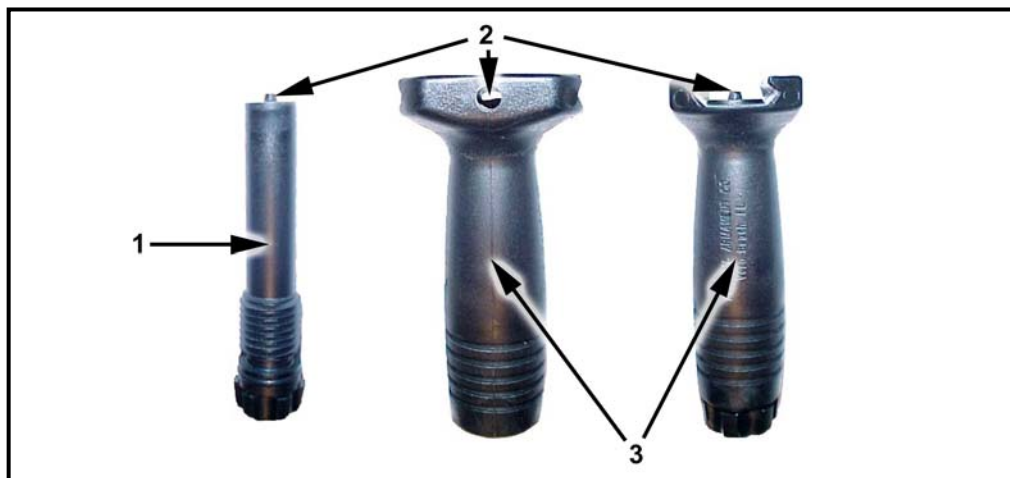

Figure 2-17. Vertical pistol grip.
c. Each RAS comes with a vertical pistol grip (Figure 2-17). When installing the pistol grip (3) the rail cover/heat shield must be removed first. Once removed, unscrew the pistol grip lock (1) until the tip (2) is no longer visible through the hole in the pistol grip. Slide the pistol grip onto the RAS (it will cover five notches on the RAS). The tip on the top of the pistol grip lock (1) must then be aligned with a notch and hand tightened. (For further information on these accessories refer to TM 9-1005-319-10.)